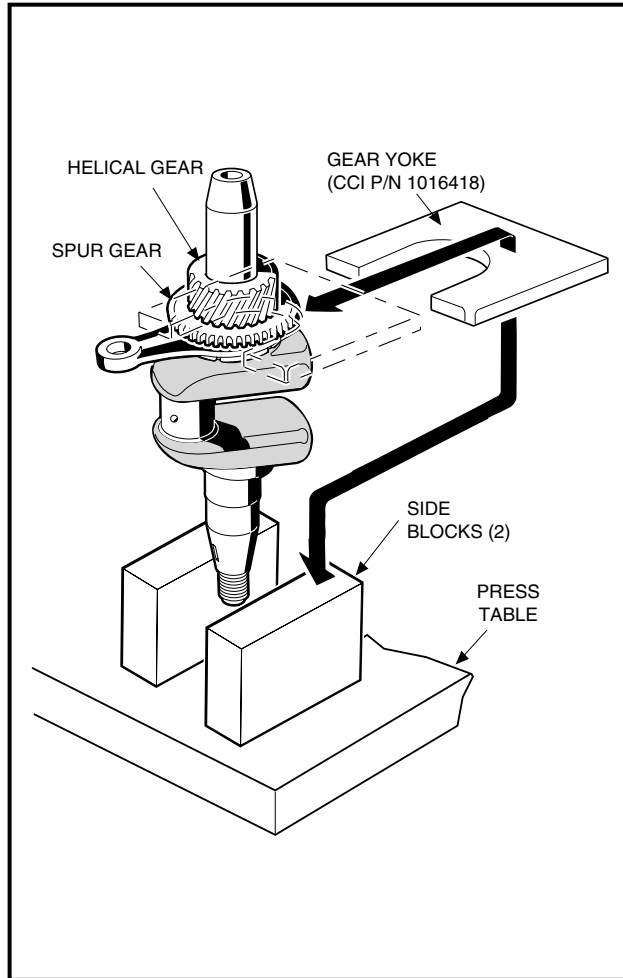

Figure 13-76 Place Assembly in Press
2. If the link rods need replacing, place the gear yoke (CCI P/N 1016418) under the spur gear with the small end of the connecting rod located opposite the crankpin (Figure 13-76, Page 13-37).